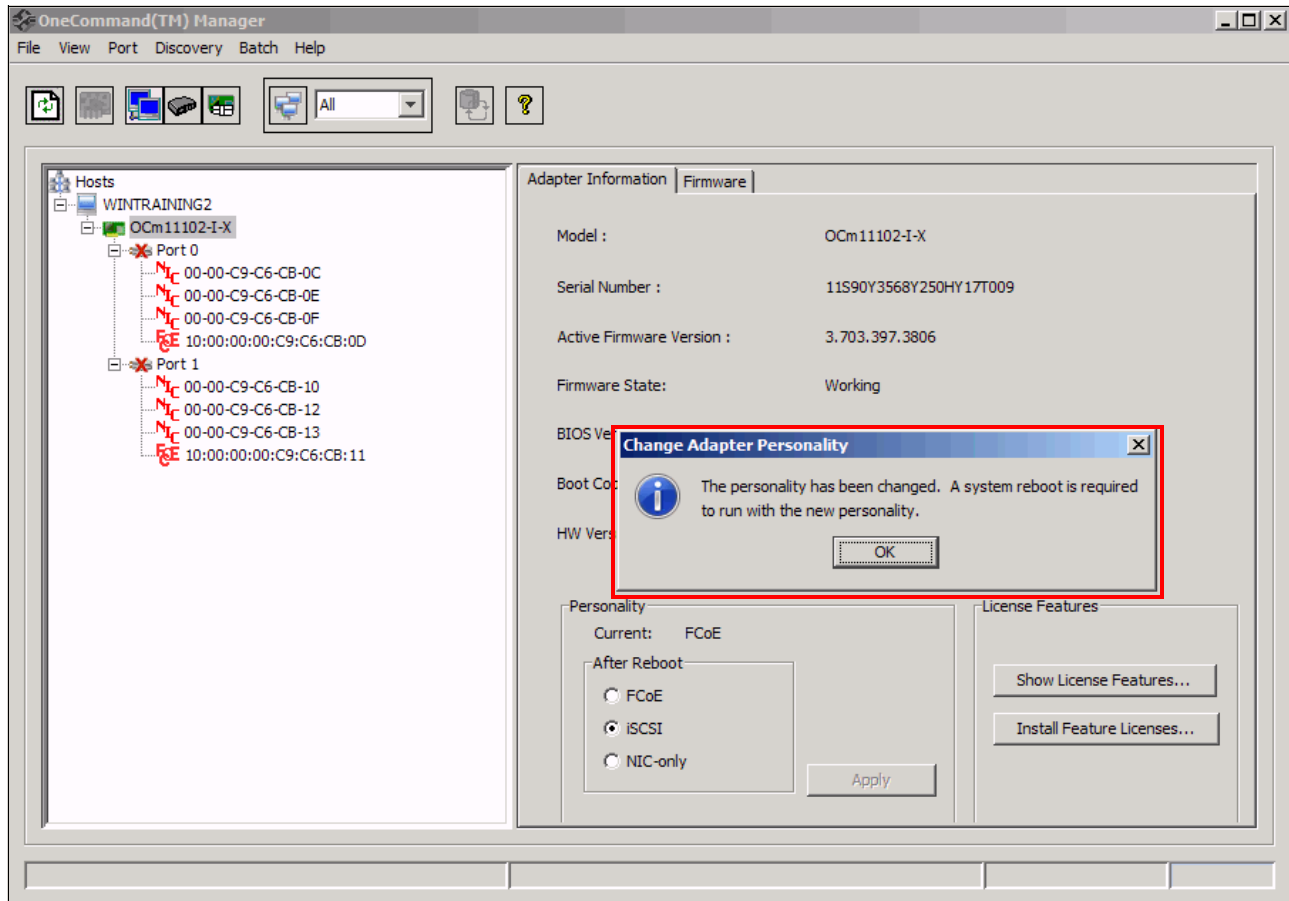

Figure 7-29 Emulex personality change reboot requirement
3. When you are prompted by the Change Adapter Personality message box (Figure 7-29), click **OK** to reboot your system and activate the change.